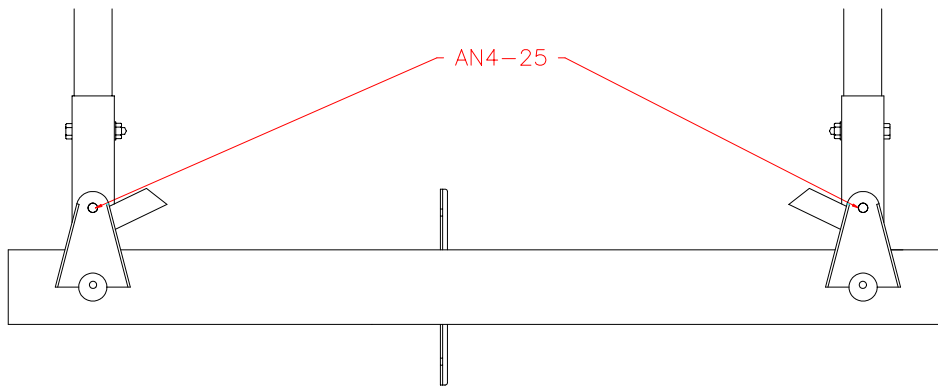

Figure 15.3.2
- 2) Attach the Control Sticks to the Torque Tube (CC-35) with AN4-25 bolts, AN960-416 washers, AN310-4 castle nuts and MS24665-132 cotter pins. Figure 15.3.2.